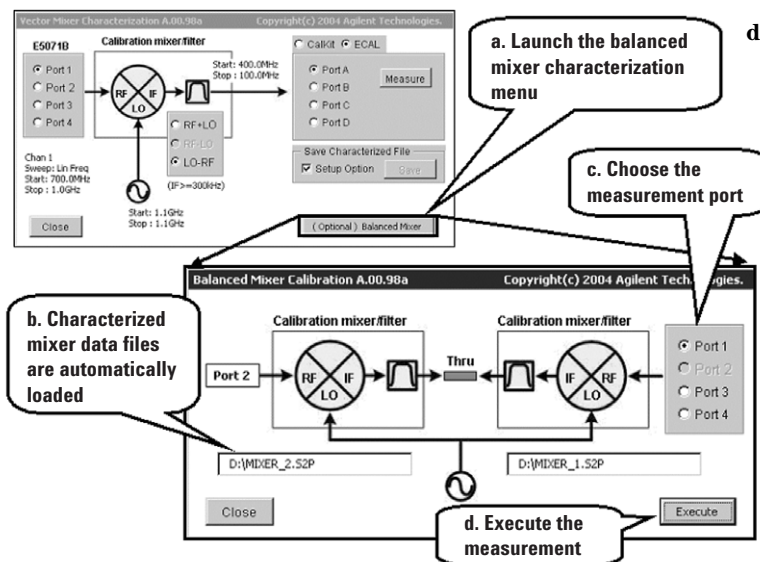

Figure 24. Balanced mixer characterization menu
- Press **[(Optional) Balanced Mixer]** on the vector-mixer characterization VBA macro menu and launch the balanced mixer characterization menu as shown in Figure 24.